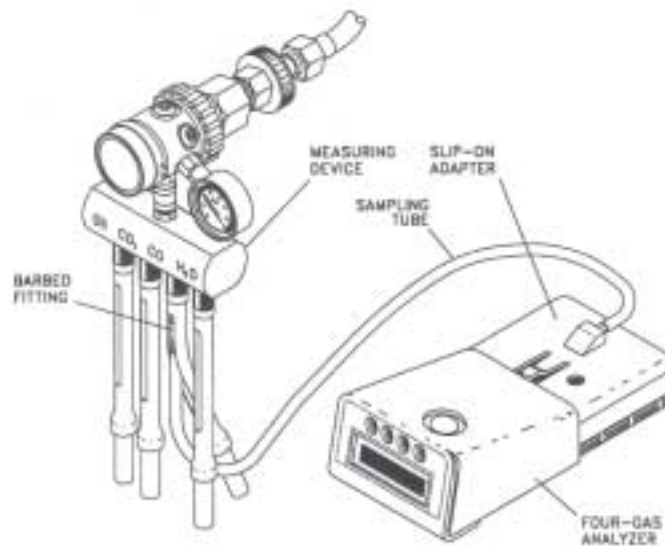

Figure 4, Four-Gas Analyzer Connection to Air Test Kit
o. Remove slip-on adapter from four-gas analyzer. Connect a short length of sampling tube between barbed fitting and slip-on adapter as shown in Figure 4.